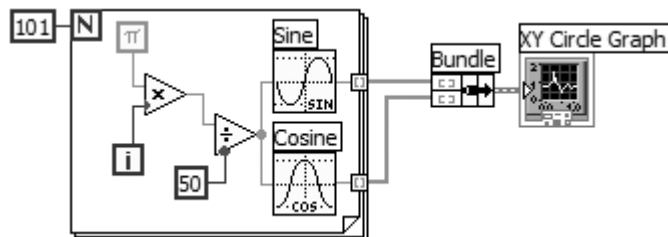

Figure 8.41
5. Build the block diagram shown in Figure 8.41.